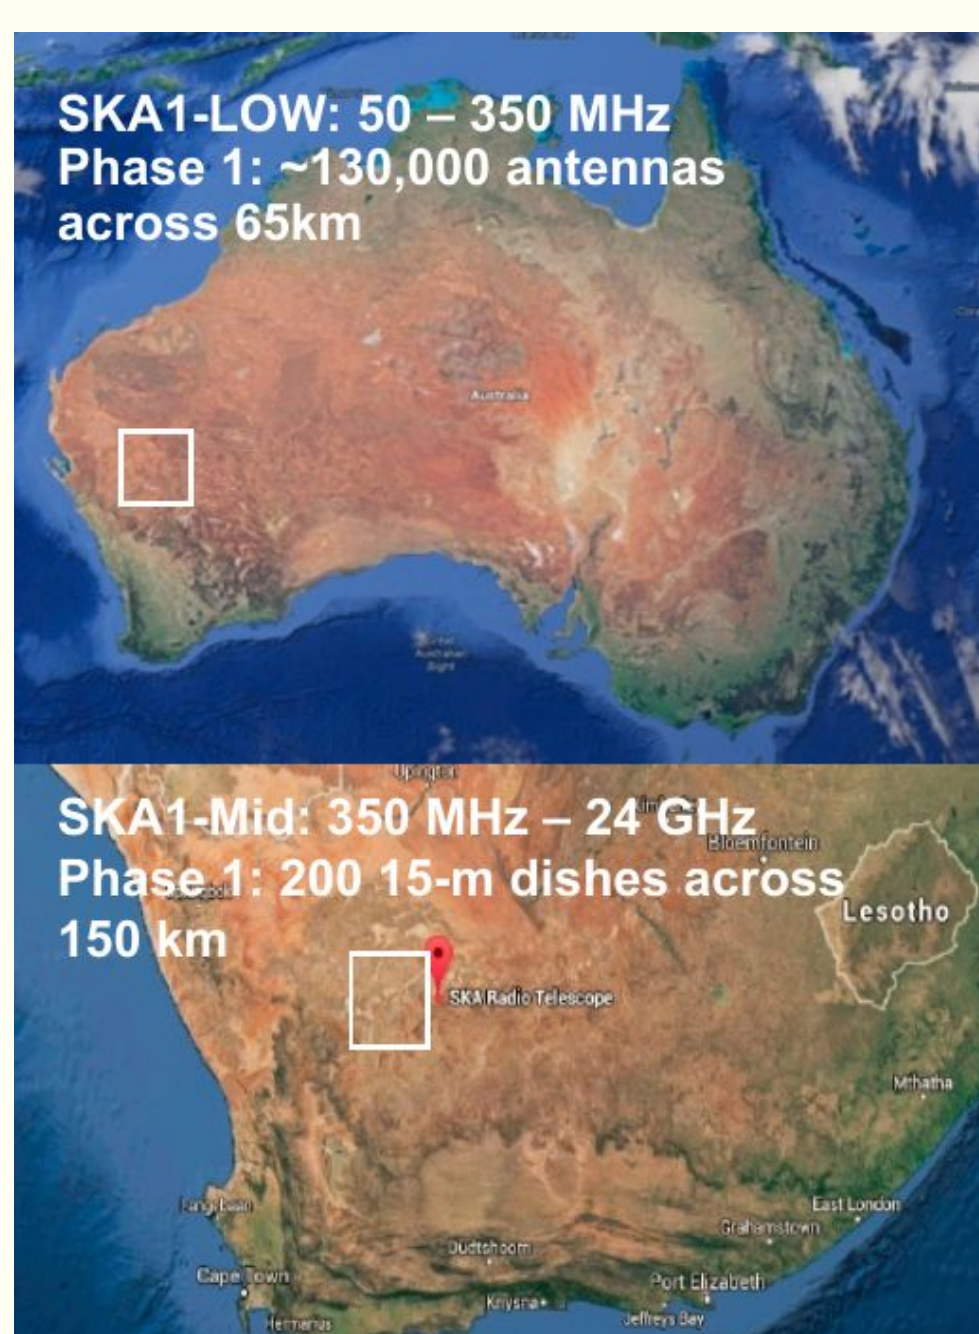

Fig. 1: SKA1-Low (top) and Mid (bottom) locations
- ❖ **2 radio antenna arrays** (Fig. 1)